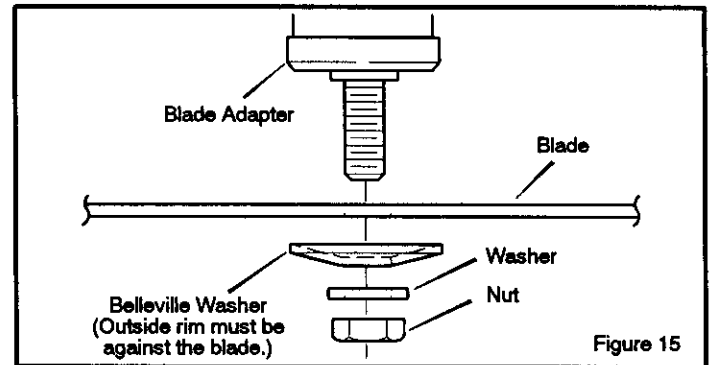

Figure 15
8. Fasten the blade with the original washers and nut. Make sure the outside rim of the Belleville washer is against the blade (Figure 15).